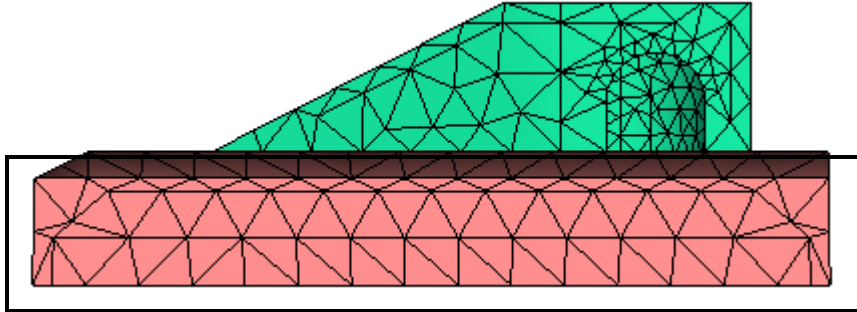

Figure 3: Rim section selected
3. Select the rim section of the model by creating a banded selection (click, hold and drag the left mouse button with the select icon , as indicated in Figure 3 below. Start from the lower left corner and drag to the upper right).